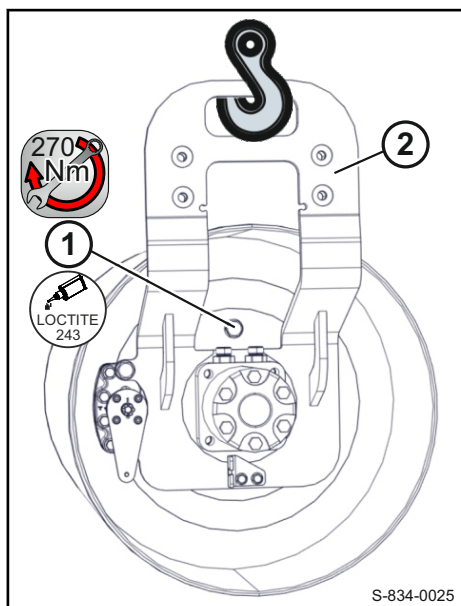
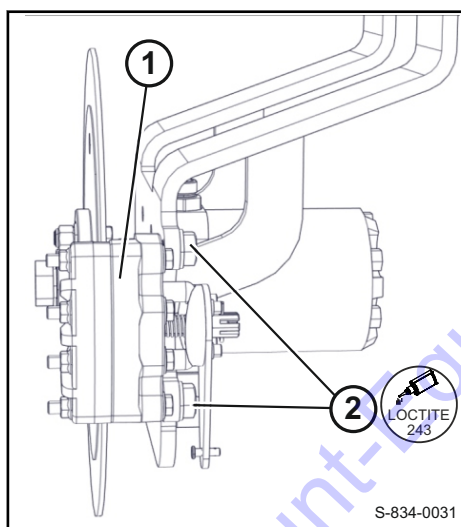

Fig. 258
Fig. 259
1. Attach the lifting tackle to support leg 2 ↗ Fig. 258.
2. Unscrew the four hexagon nuts (1).
3. Remove support leg (2) with travel motor, lift the drive disc and parking brake from the drum.
4. Unscrew hexagon screws 2 ↗ Fig. 259 with washers and remove the parking brake (1).